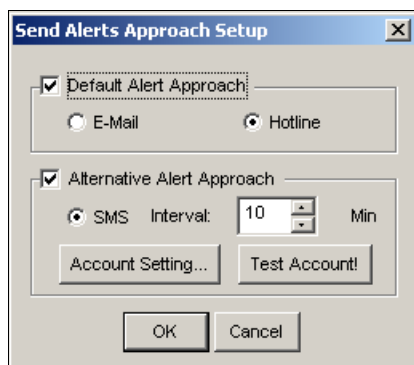

Figure 10-10 Send Alerts Approach Setup
7. Click the **Test Account** button (Figure 10-10). If the connection of both devices is established, the message will appear: *Login SMS Server OK!* If the connection fails, the message will appear: *Connect to SMS Server Fail.*
1. Open the **Send Alerts Approach Setup** dialog box (see Figure 10-10).